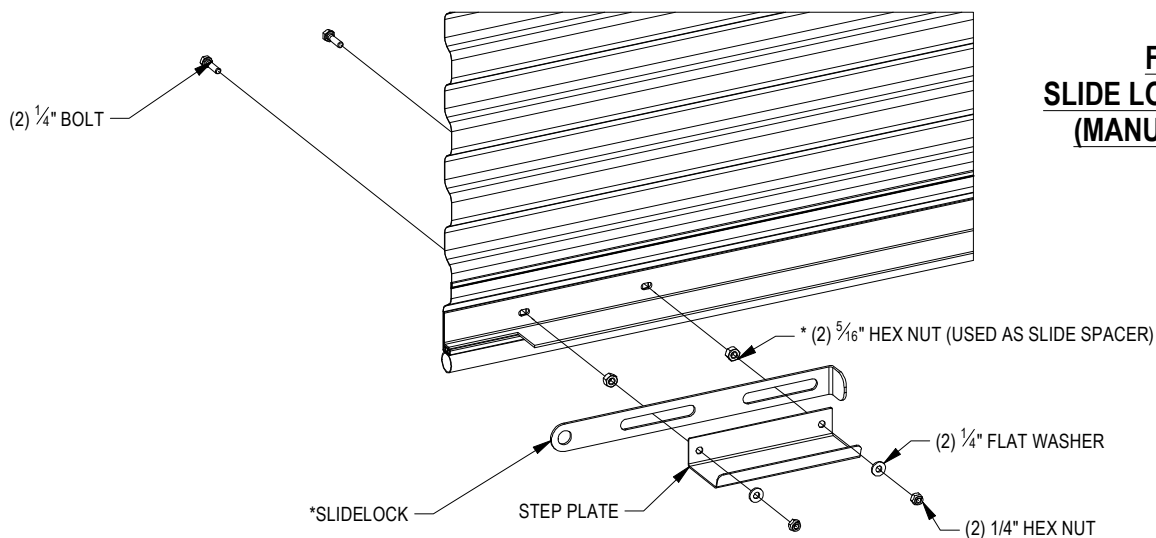

**FIGURE 21:
- Slide head stop from outside of each guide. **See Figure 21.**